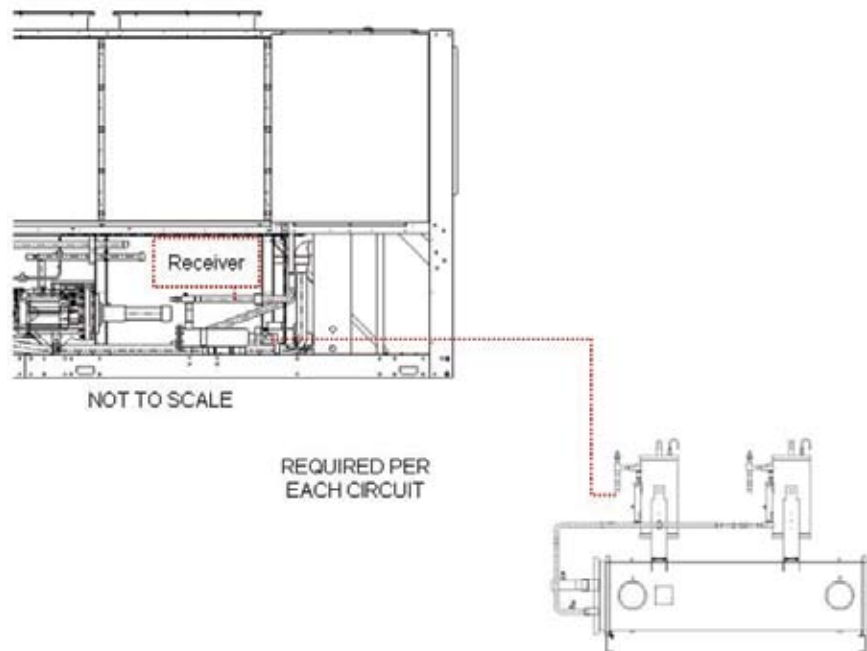

FIGURE 4
B. A receiver must be installed between the condenser coil and the shutoff valve (located above the filter drier) per each circuit. The receiver must have a design working pressure of 350 psig and be sized to accept the quantity of refrigerant in the actual length of the liquid line. See Figure 4. (Optional if it is desired to keep the liquid line valve with the outdoor section for pumpdown.)